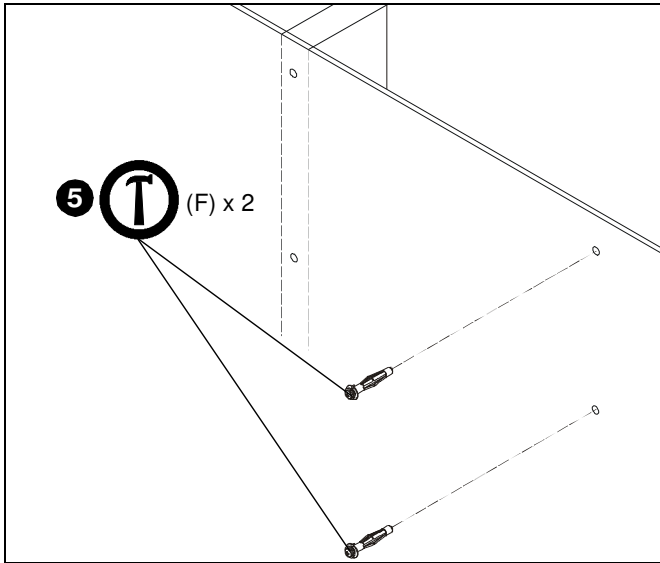
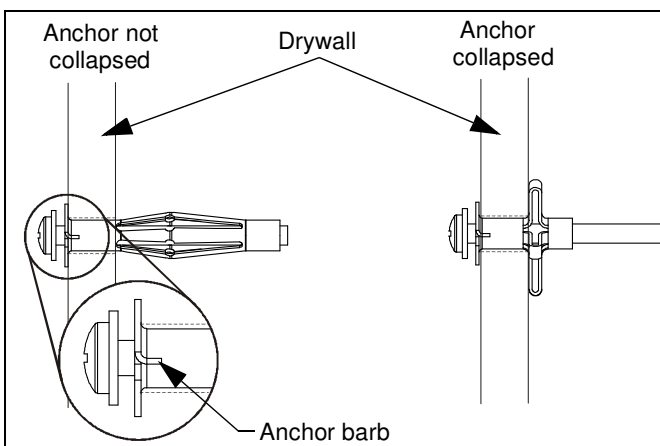

Figure 3
Figure 4
5. Gently tap two anchors (F) into anchor holes. Anchor barbs should be fully engaged in drywall. (See Figure 3) and (See Figure 4)
6. Using Phillips screwdriver, tighten anchor screw until anchor has fully collapsed against back side of drywall. (See Figure 4)